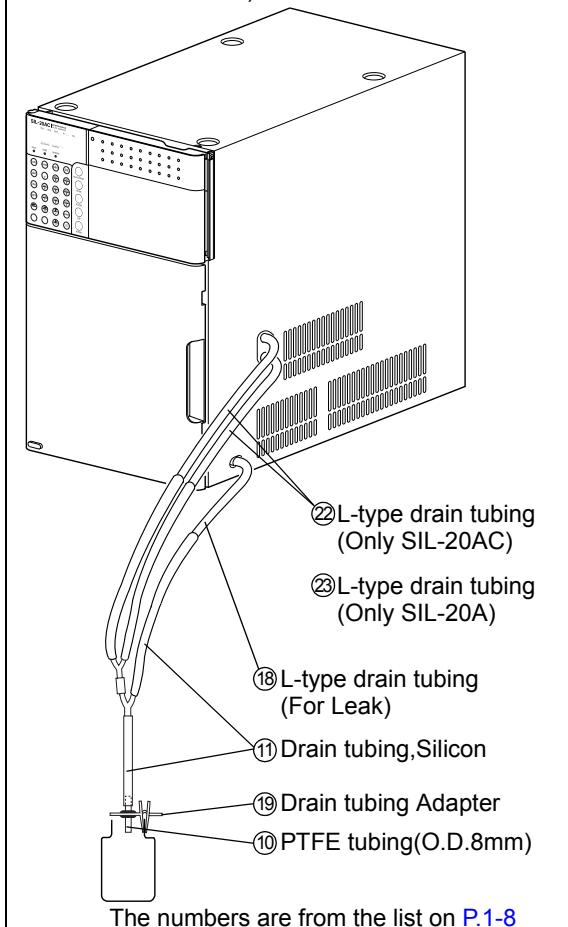
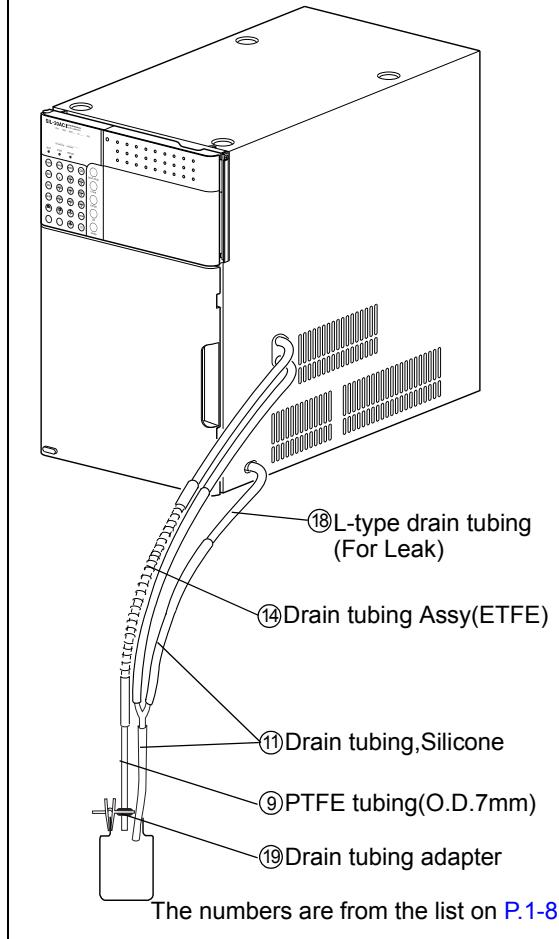

Fig. 9.19
Fig. 9.20
Normally, connect the tubings as in Fig. 9.19. If the rinse solution with low polarity is used, however, connect the tubings as in Fig. 9.20. The numbers in the figures correspond to the ones on P.1-8.
- 2 Adjust the length of the silicone tubing by cutting it with a cutter so that it extends to the waste container inlet. In case of plumbing in Fig. 9.20, insert the PTFE tubing (part No. ⑨) into the drain tubing adapter directly.